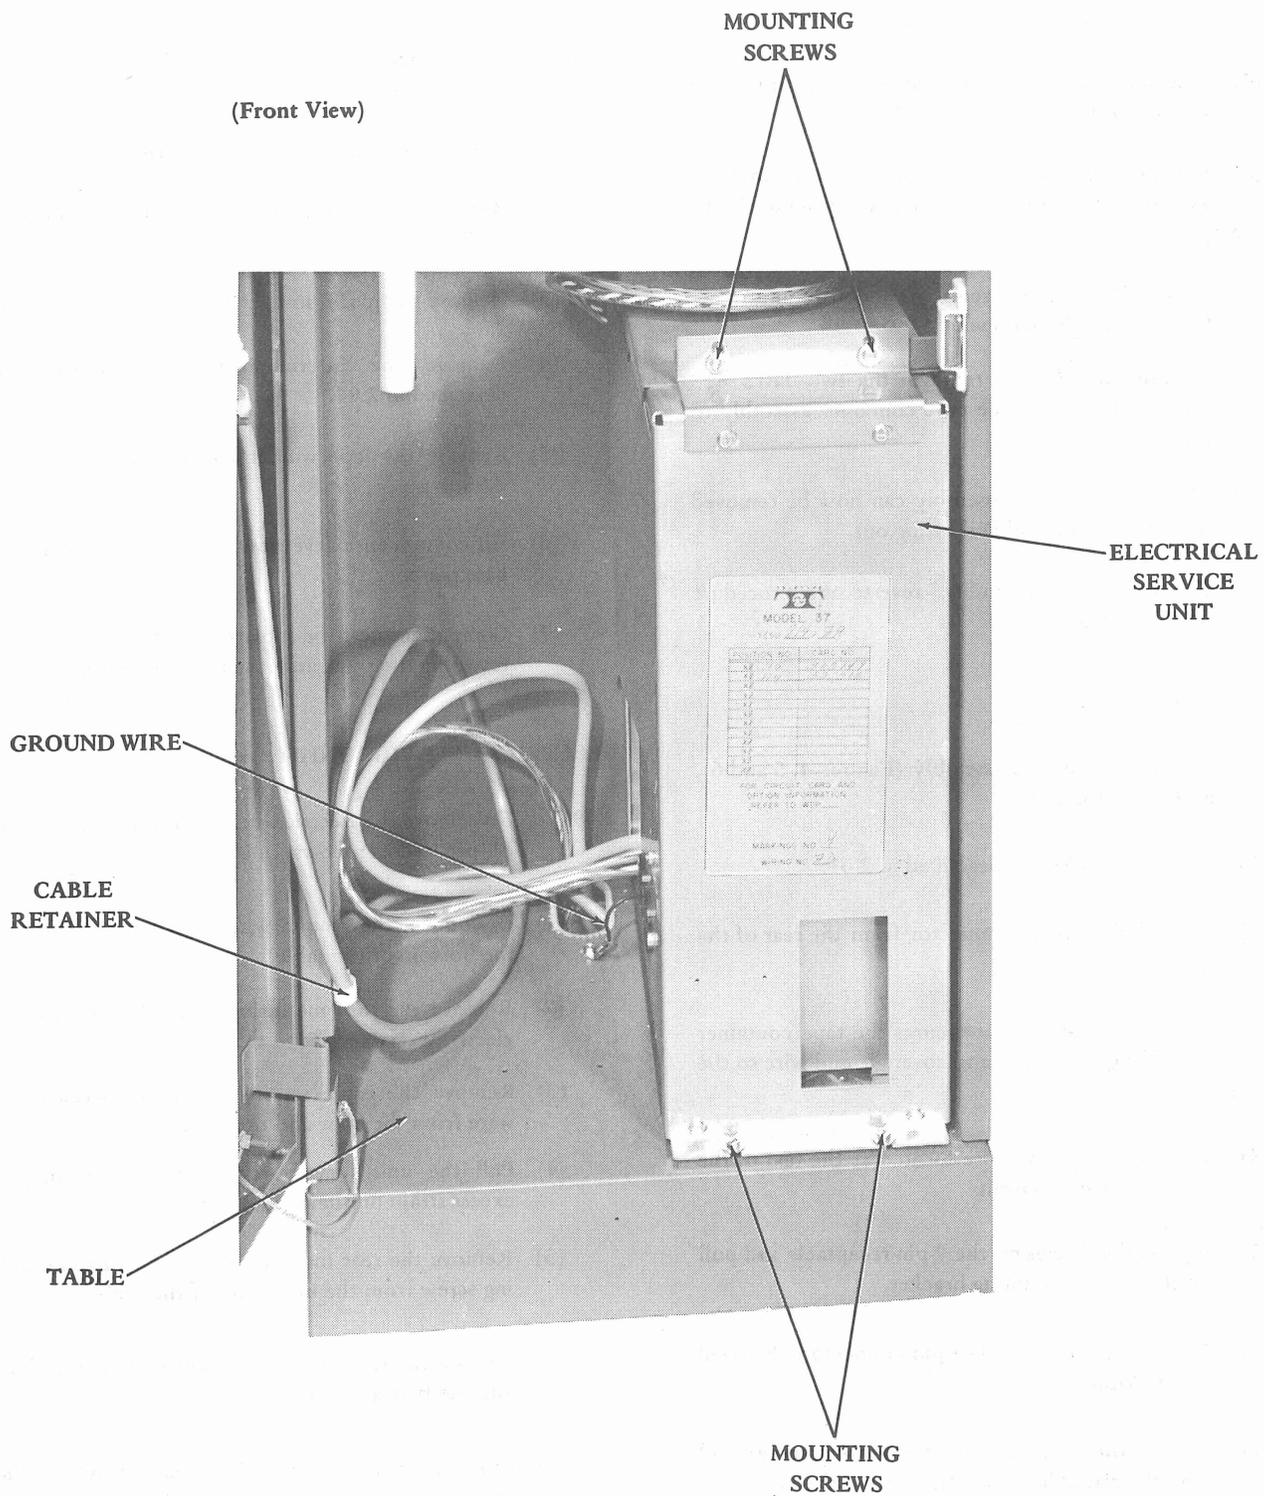

Figure 7 - Electrical Service Unit
- 2.09 To remove the electrical service unit (Figures 7 and 8), proceed as follows.